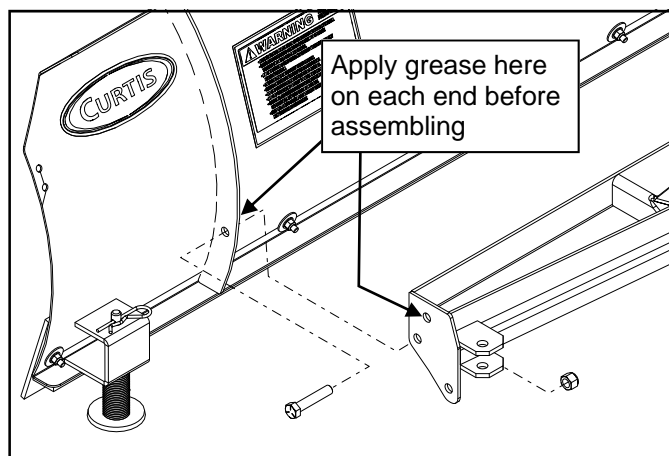

Fig. 1.1 (Trip Frame to Moldboard)
1.1 Locate the steel moldboard, trip frame, (2) 1/2-13 x 2 1/2" bolts, and (2) 1/2-13 Nylock locking nuts. See Fig 1.1. Apply all-season grease to the mating surfaces on the trip frame and moldboard rib. As shown, line up the mounting hole in the trip frame with the mounting hole on the moldboard rib (near the bottom). Install into the mounting holes a 1/2-13 x 2" bolt as shown. Install a 1/2-13 Nylock nut on the back side of the bolt. Repeat installation of hardware for the right side, orienting the bolt head to face away from the center of the moldboard. Tighten the Nylock nuts until all thread slack is removed from the assembly while allowing the trip-frame to rotate freely.